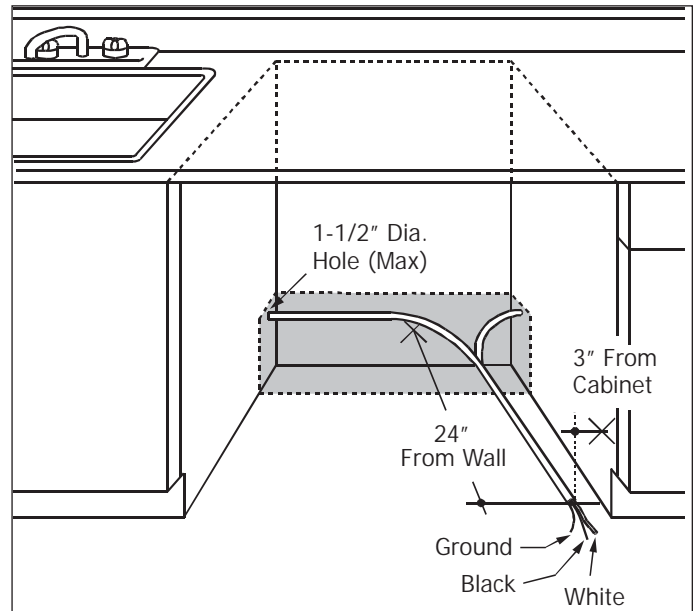

Figure 2-5.
2. Wiring must be 2 wire with ground. (See Figure 2-5)
1. For cable direct connections the cable must be routed as shown in Figure 2-5. Cable must extend a minimum of 24" from the rear wall.